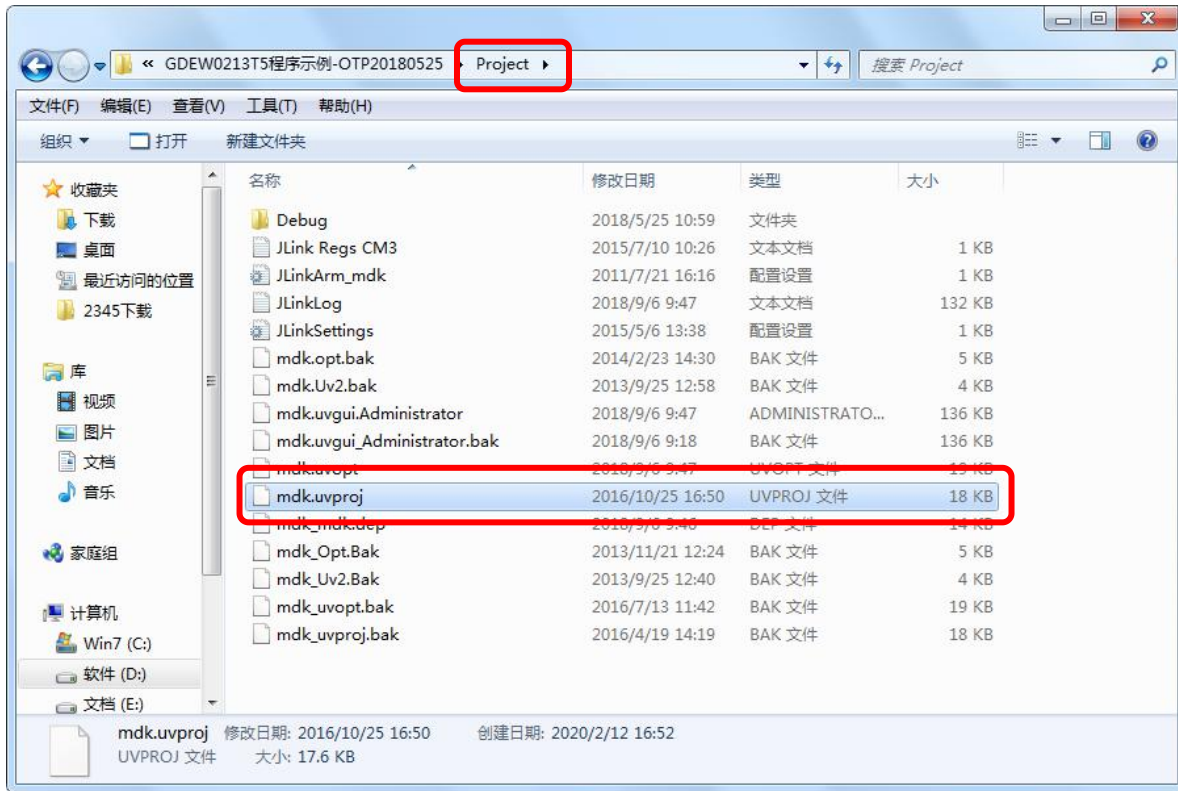

Figure 12 : Open the mdk.uvproj
- 2) Open the "mdk.uvproj" in the program folder "Project" shown in Figure 12 with Keil4.